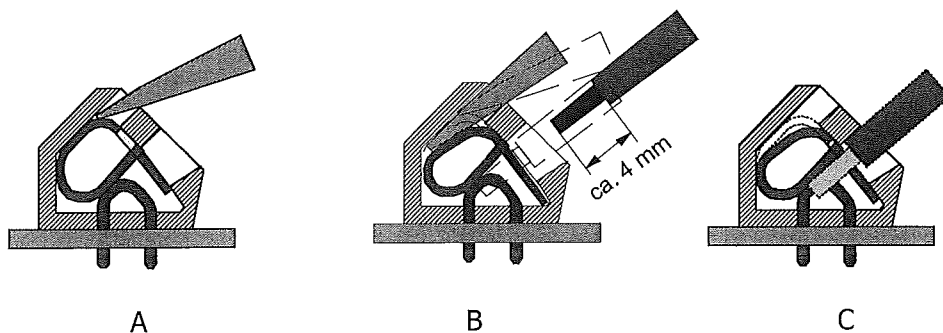

Fig. 4.10 Connection in screwless spring-loaded terminals
- Insert a size 1 screwdriver in the upper opening and insert it turning slightly upwards (Fig. 4.10 A).
- Now place the stripped connecting wire in the lower opening and hold it there securely (Fig. 4.10 B).
- Withdraw the screwdriver. The connecting wire is then firmly fixed (Fig. 4.10 C).
The insulation of the connecting line must extend as far as the terminal indentation, i.e. there must be no further bare part of the connecting line visible above the terminal edge (as shown in Fig. 4.10 C). Touching live parts is dangerous to life. The stripped part of the connecting wire should be shortened if necessary.